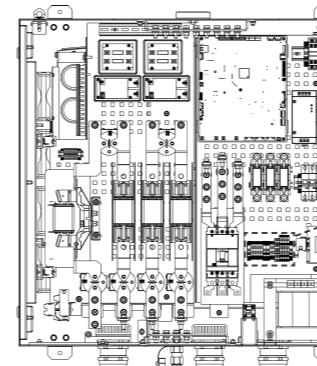

Figure 5.3: Setting the supply voltage
2. Locate the XT terminal block set next to the power circuit breaker. (Figure 5.3).